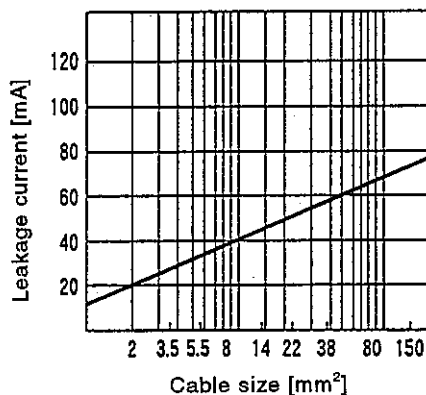

Fig. 6-1 Leakage Current per 1km (I_{g1} , I_{g2}) when CV Cable Is Laid in a Metal Conduit
- Leakage current on the electric channel from the leakage current breaker to the input terminal of the servo amplifier: I_{g1} [mA] (Obtain from Fig. 6-1.)
- Leakage current on the electric channel from the output terminal of the servo amplifier to the servo motor: I_{g2} [mA] (Obtain from Fig. 6-1.)